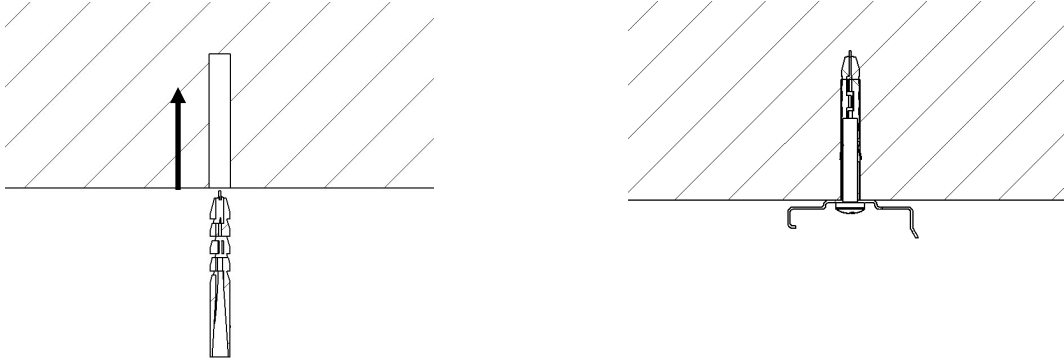

FIG. 1
- Insert the fissure and screw mount the bracket securely. (Fig 1)